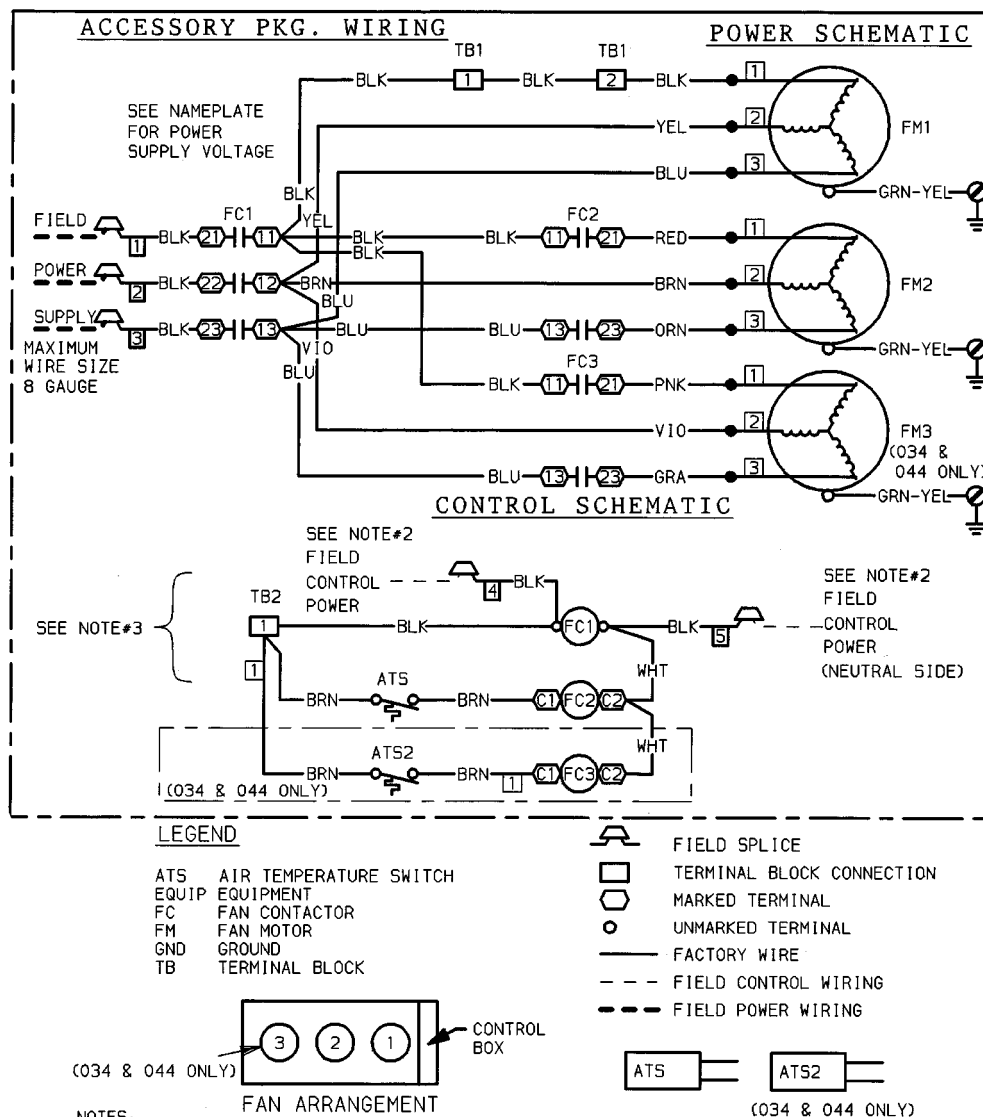

Fig. 4 — Accessory Fan Cycling Control Wiring
nect the other 8-in. black wire to FC1 (11) and FC3 (11). Connect an 8-in. blue wire to FC1 (13) and FC2 (13). Attach the other 8-in. blue wire to FC1 (13) and FC3 (13). Next, connect an 8-in. white wire to FC1 neutral side and FC2 (C2). Attach the other 8-in. white wire to FC2 (C2) and FC3 (C2). Connect the 18-in. black wire to FC1 control power side and TB2 (1). Attach one lead of ATS (Air Temperature Switch) to TB2 (1) and the other lead to FC2 (C1). Connect one lead of ATS2 to TB2 (1) and the other lead to FC3 (C1). See Fig. 4 for wiring connections.